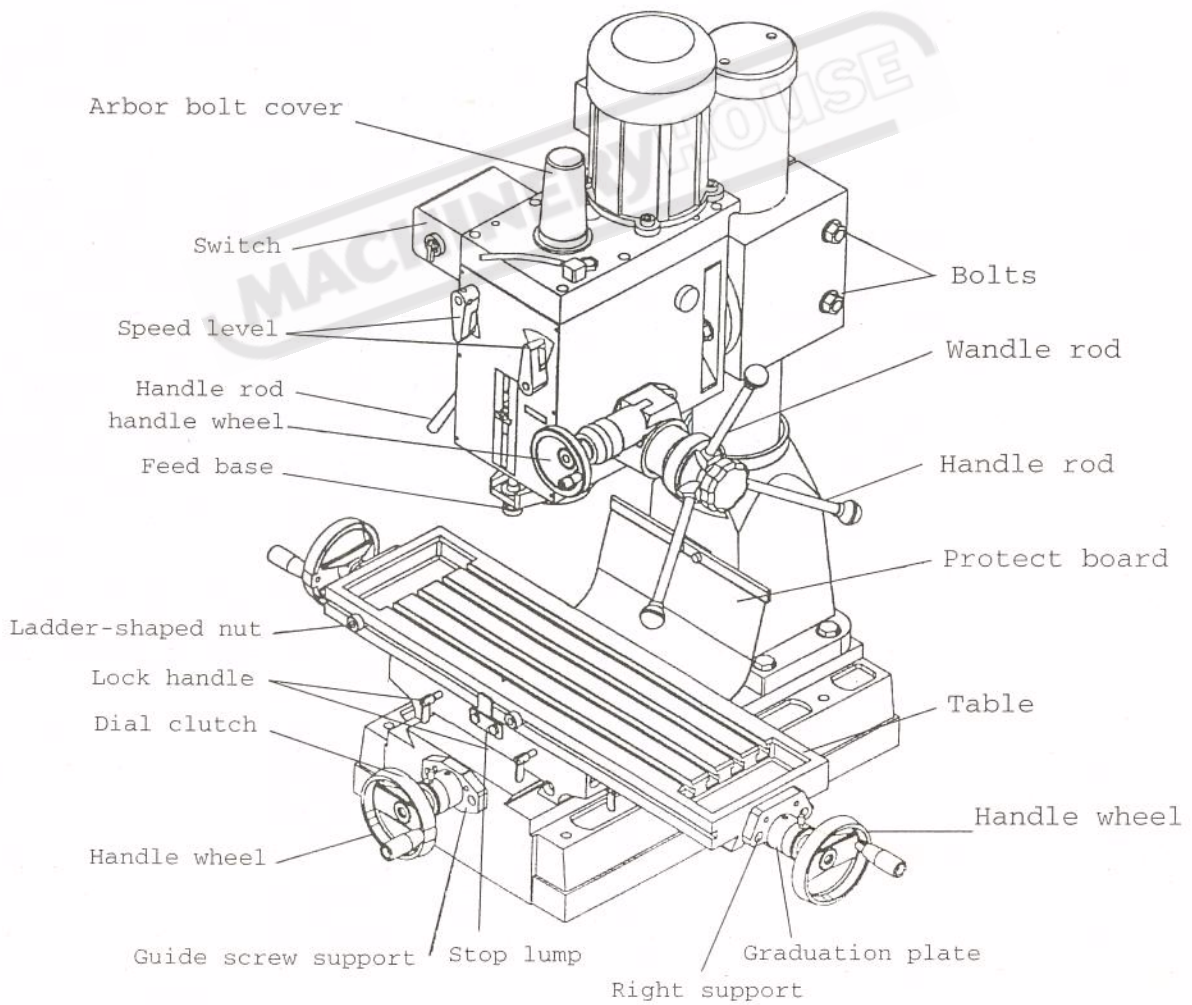

Fig.2
**CHANGE THE GEAR BOX OIL:** Tilt the head stock over as shown in Fig 2. Open the